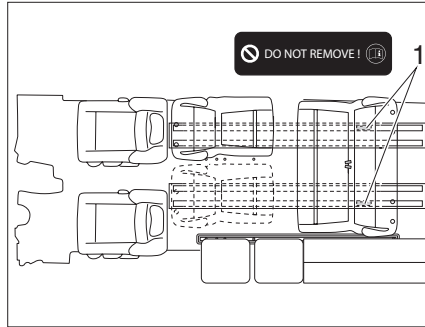

Fig. 5 Bed couch correctly fitted
To limit the movement of the seats, a limiting plate (Fig. 5,1) is mounted in the rail-in rails.
- ▶ Only use the bench in the front area in front of the limiting plate (Fig. 5,1) of the rail-in rails. In the rear area, the use of the bench is not permitted.
- ▶ Do not remove the limiting plate (Fig. 5,1) (Do not remove!).